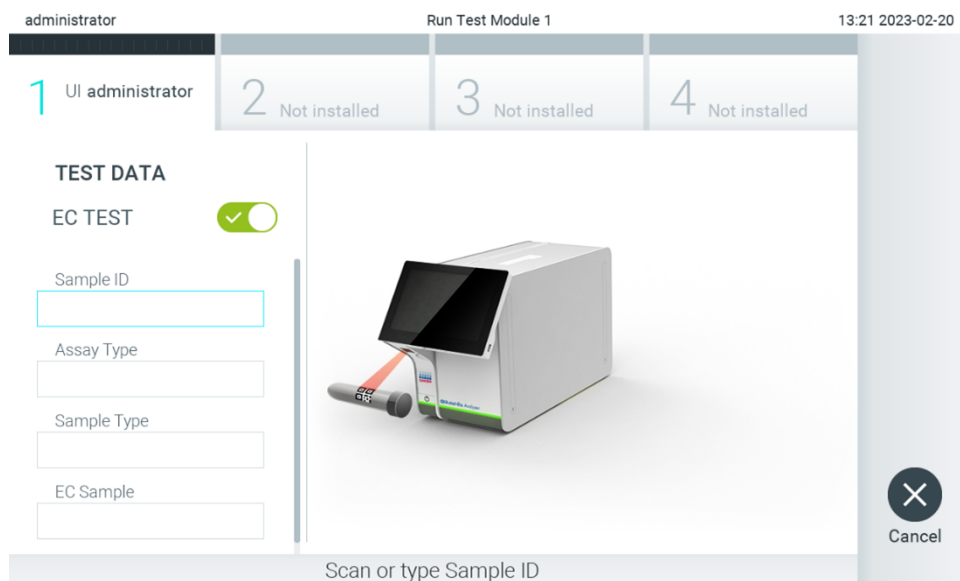

Figure 92. Turning on the EC Test toggle button to enable an EC test.
2. Turn on the **EC Test** (Figure 92).
3. When prompted, scan the sample ID barcode using the bar code reader that is integrated into the Operational Module (Figure 92).